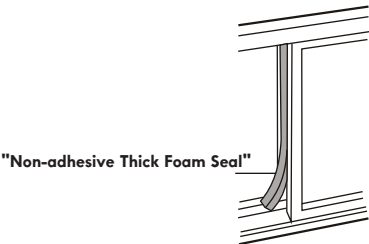

Fig.15
- 4. Cut the non-adhesive thick foam seal to window height and insert into the open gap between the inner window and outer window sash (see Fig. 15).